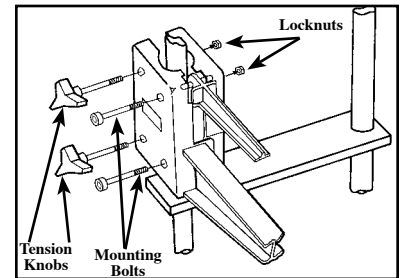

Figure 3
4. Repeat process for left side. Knobs should face outward. (Figure 3)